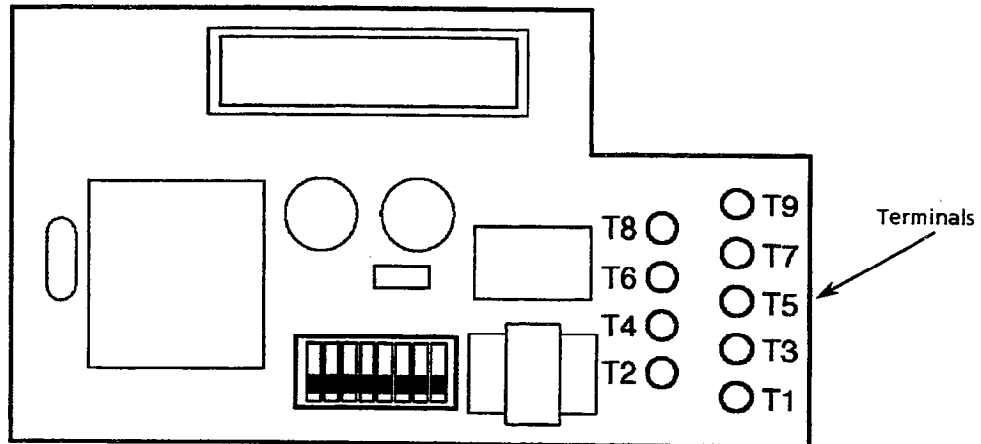

Figure 4-44 ADA-U Unit
2. Locate the adapter terminals on the right side of the unit shown in Figure 4-44 ADA-Unit.